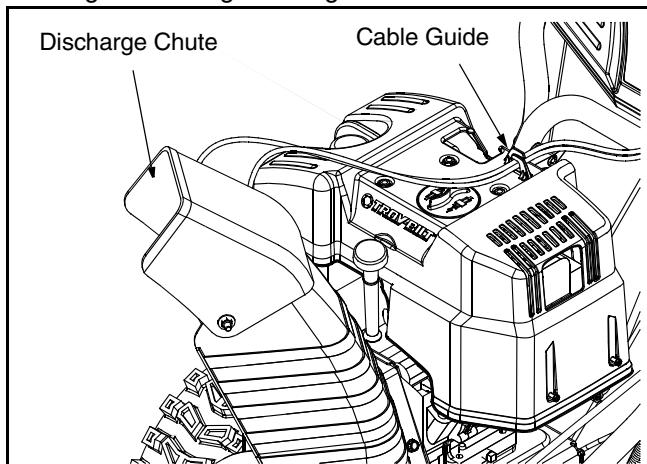

Figure 6
- If not already routed, slip the cables that run from beneath the handle panel to the chute assembly through the cable guide located on top of the engine housing. See Figure 6.